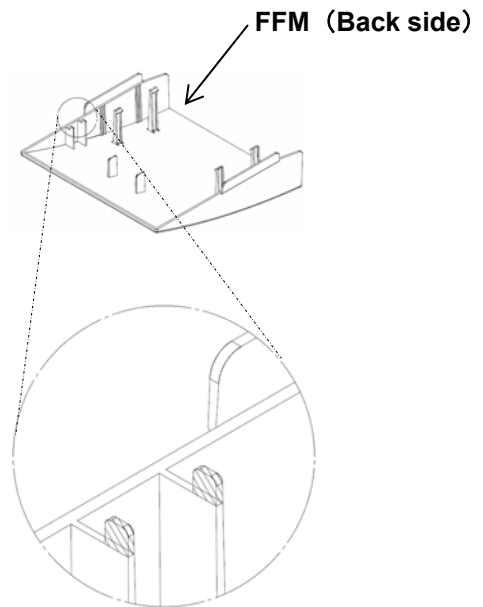

Figure 2 Part (shaded area) to remove surgically
When the inverter which I purchased is included in ②, After having removed (shaded area) surgically in nippers for back side tang of FFM of figure 2, fit FFM in the cover upper surface of the main body of inverter, and, please use it.
When the inverter which I purchased is included in ③, After having removed (shaded area) surgically in nippers for back side tang of FFM of figure 2 and 3, fit FFM in the cover upper surface of the main body of inverter, and, please use it.